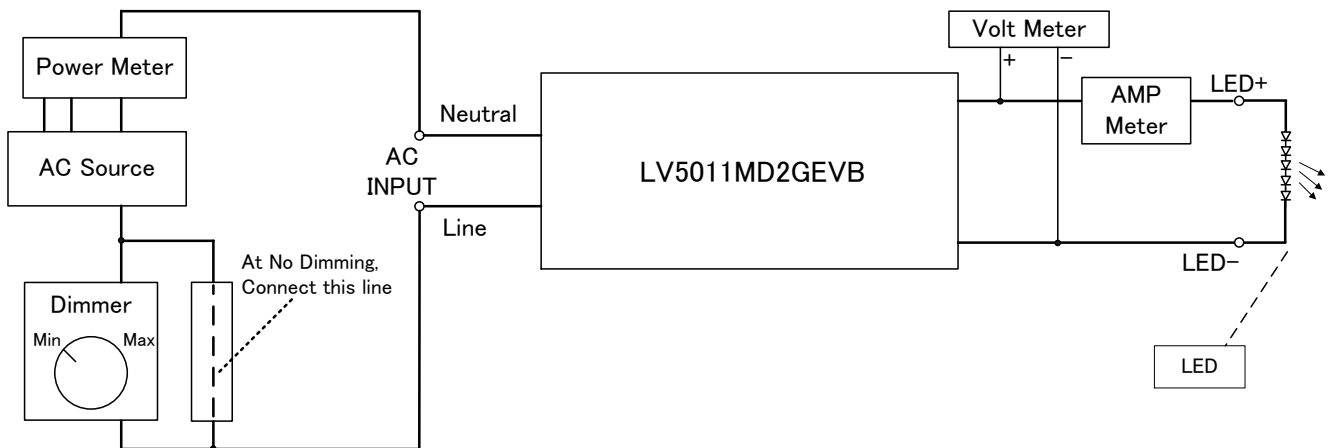

Figure1. LV5011MD2GEVB Recommended Test Set Up
1. Connect LV5011MD2GEVB like upper Figure1. An external LED load must be used to start up the EVB.